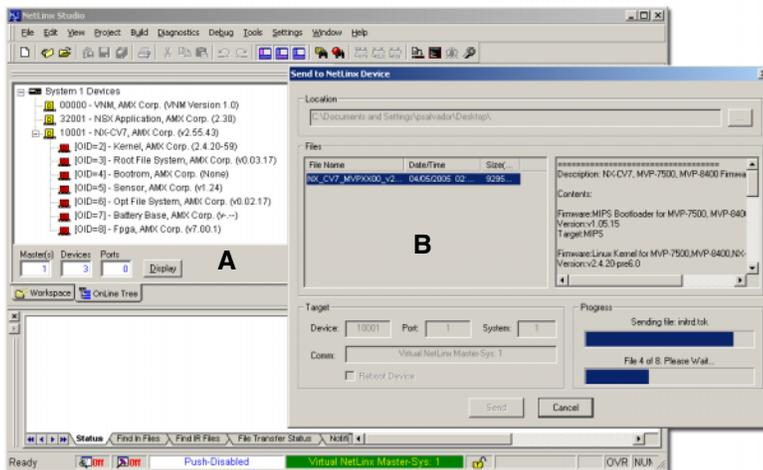

FIG. 72 Using USB for a Virtual Master transfer
8. Select **Tools** > **Firmware Transfers** > **Send to NetLinx Device** from the Main menu to open the Send to NetLinx Device dialog (B in FIG. 72). Verify the panel's System and Device number values match those values listed within the System folder in the **OnLine Tree** tab of the Workspace window (A in FIG. 72).
12. Click **Send** to begin the transfer. The file transfer progress is indicated on the bottom-right of the dialog (**B** in FIG. 72).